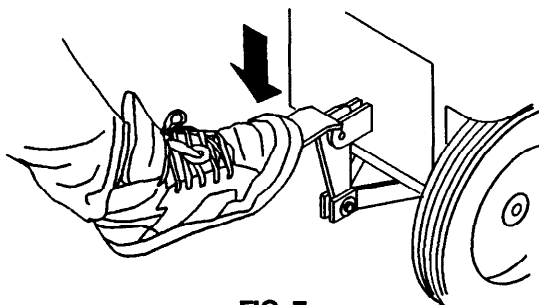

FIG. 7.
- Raise dispenser assembly off floor. Step down on pedal to raise dispenser to transport position. (Figure 7)